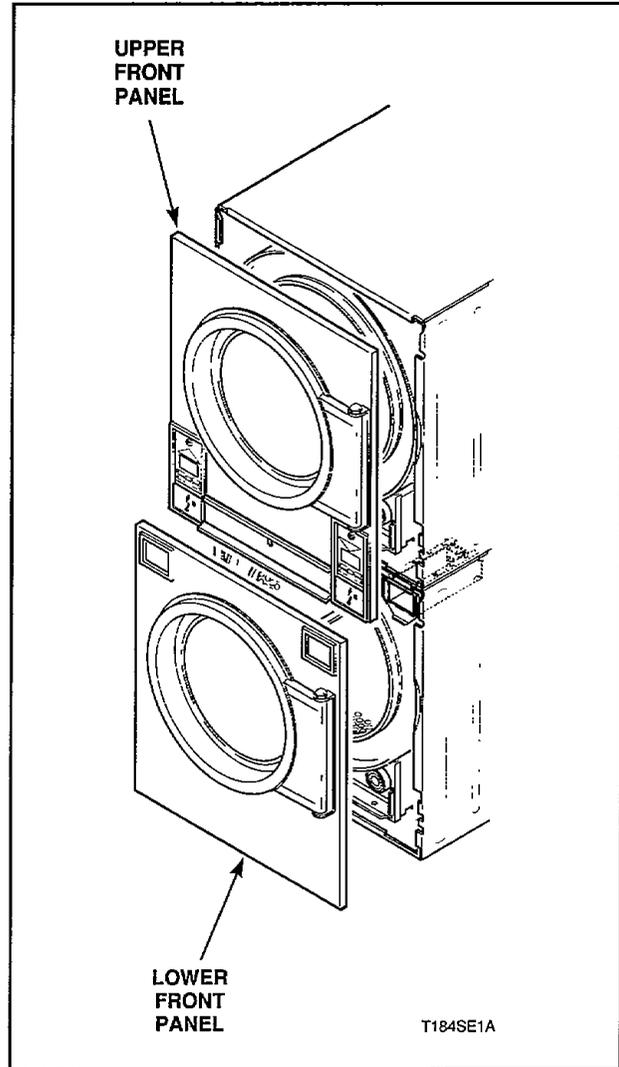

Figure 5
- While supporting front panel, tip the top forward slightly and lift up and out far enough to disconnect both electronic controls (upper front panel only), Figure 5.